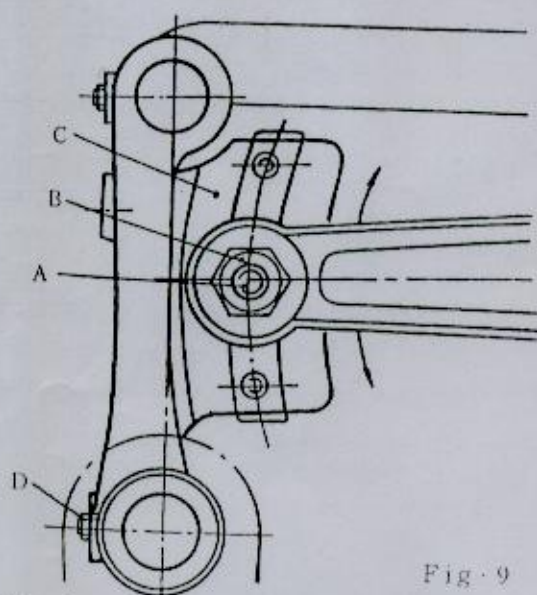

Fig. 9
If feed dog are not in the center in the throat plate slots, loosen screws rear in the feed locker (C, Fig.9), move the feed locker right or left as required. Then retighten screws (D).
The length of the stitch can be adjusted by raising or lowering the stud (A) in the segment slot of the feed locker (C, Fig. 9). Lowering the stud will shorten the stitch. After loosening nut (B), stud (A) can be moved accordingly. When the desired stitch length is obtained, retighten nut (B). (For automatic style machines the cloth plate should be removed to adjust)